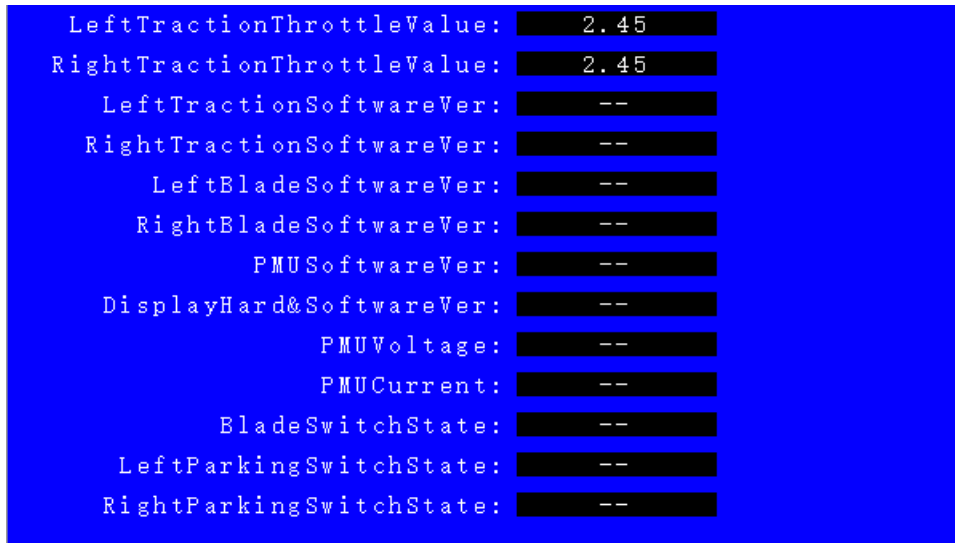

Fig. 9
3. The voltage value displayed in the screen, as shown in Fig.9. The values in the first and second rows represent the voltage of left and right potentiometers. Please refer to the data in the following table for adjustment.